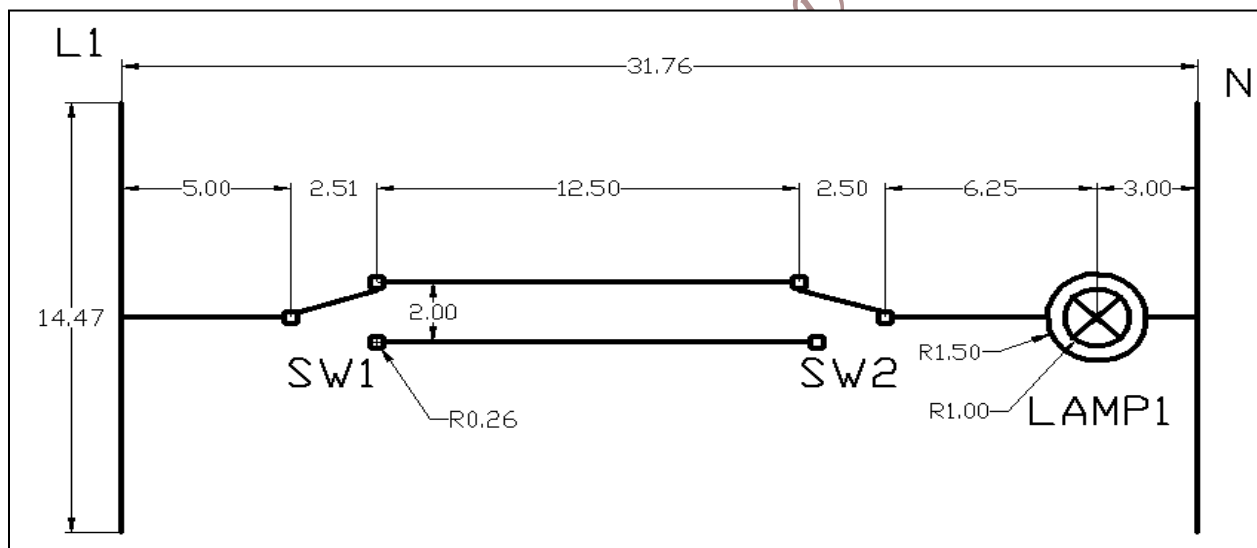

Figure 2.5 Lamp lighting is controlled from two places, using Two way switches
2. Draw the circuit as shown in Figure 2.5.